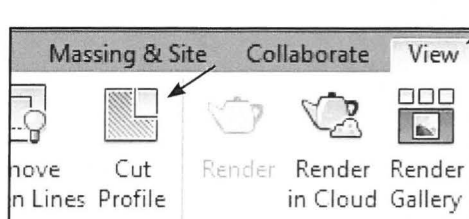

Fig. 14.49. Klik *View - Cut Profile*.
- Klik *View - Cut Profile* (Fig. 14.49).